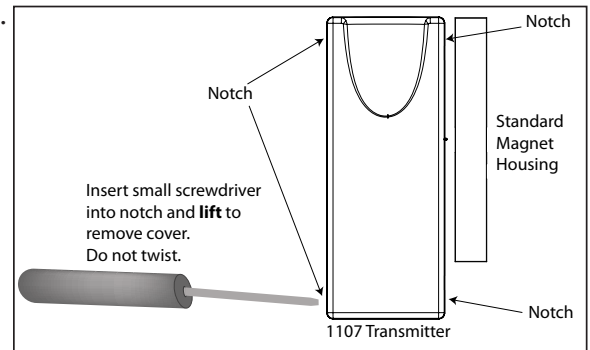

Figure 1: Transmitter and Magnet
1. Remove the cover and battery if installed. See Fig. 1.
1. If installed, remove the transmitter housing cover as shown in Figure 1.